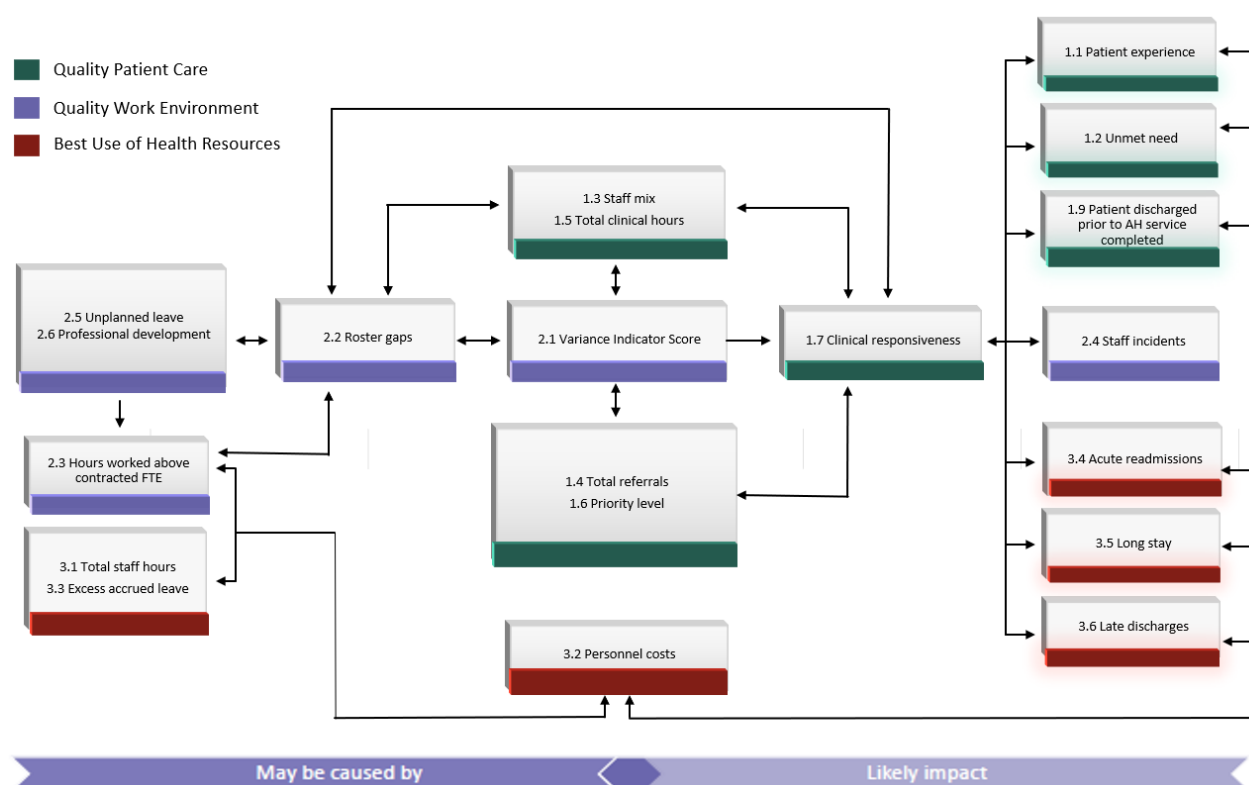

Figure 2 – Functional relationships between the allied health core data set measures
- Figure 2 illustrates the functional relationships between the measures. This diagram helps track potential cause and effect relationships, which helps with the interpretation of the data.